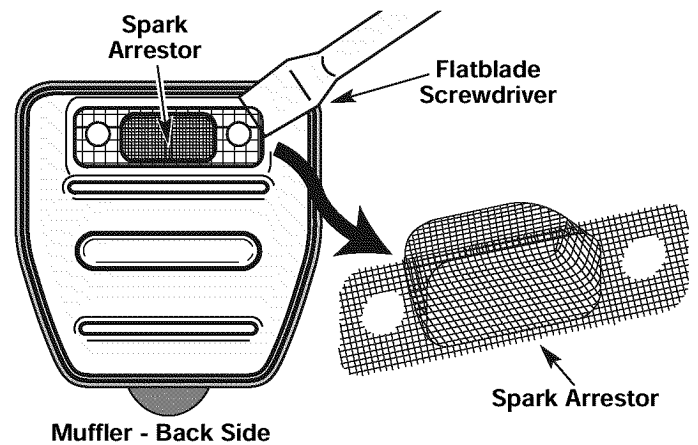

Fig. 33
4. Using a small flatblade screwdriver, carefully pry up the spark arrester from the recessed hole (Fig. 33). Remove the spark arrester from the muffler.
5. Clean the spark arrester with a wire brush. Replace it if it is damaged or if it is impossible to clean thoroughly (Fig. 33).